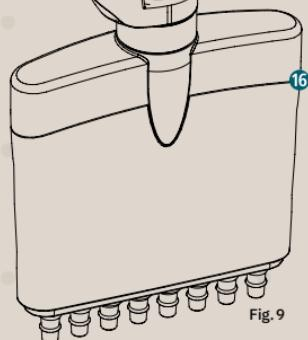

Fig. 9
- Fully unscrew the lower housing 16 by turning clockwise (Fig. 9).